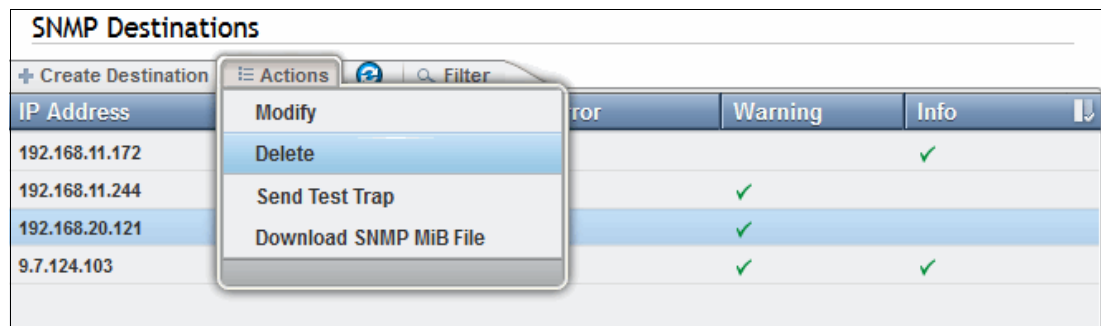

Figure 4-28 SNMP Traps actions
4. From the SNMP Traps window, select **Actions** to modify or delete an existing destination server, send a test trap, or download the SNMP MIB file. Figure 4-28 shows these options.
To download the configuration MIB file, select **SNMP Traps**, as shown in Figure 4-28 on page 218. Then, with the IP address highlighted, select **Actions** → **Download SNMP MiB File**.